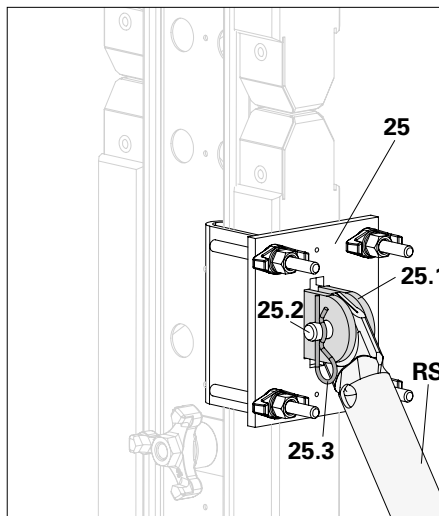

Fig. A6.06
- Connect the girder headpiece (25) to the extension splices of two girders: connect the Push-Pull Prop (RS) to connection lugs (25.1) using bolts (25.2) and cotter pins (25.3). (Fig. A6.06)